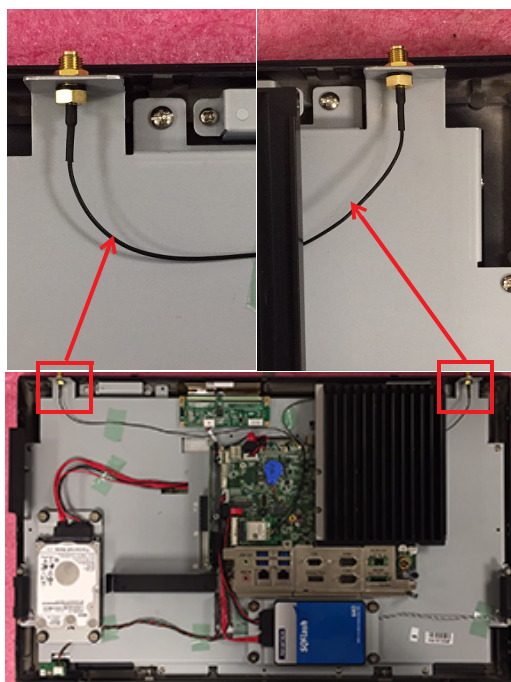

Figure 2.23
2. Connect the wireless LAN card module cable to the antenna bracket (Figure 2.23). Take note of the installation direction of the cable ends and screws/cushions.